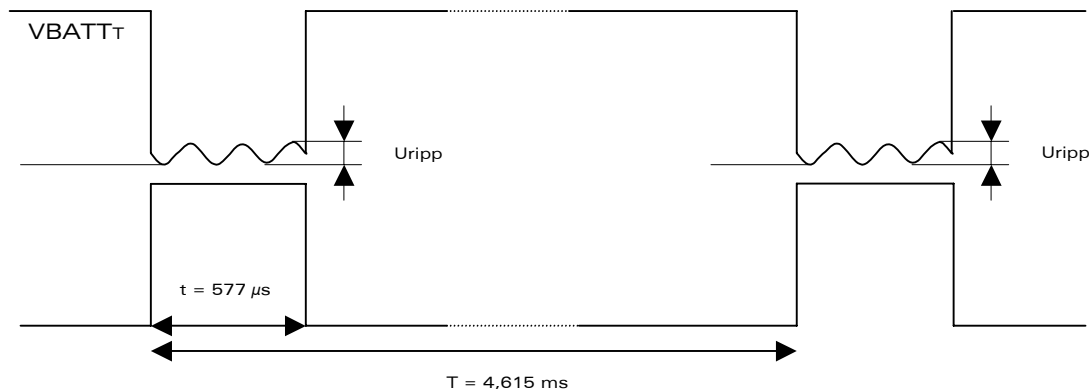

Figure 2: Power supply during burst emission
- In communication mode, a GSM/GPRS class 2 terminal emits 577 μ s radio bursts every 4.615ms (see Figure 2).